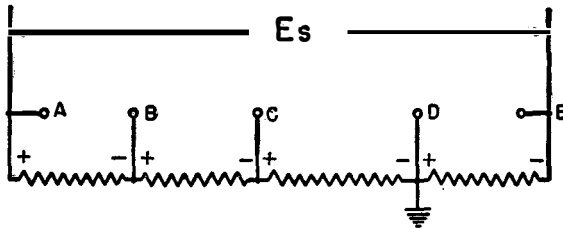

Figure 81.—Simple voltage divider.
A large number of radio systems use arrangements wherein the ground is negative with respect to certain points in the system, and positive with respect to other points. Figure 81 indicates that point (D) is positive in respect to point (E), but negative in respect to point (A). In this case, the voltage developed across resistor *D* could be used as biasing voltage, while the voltage developed across resistors *A*, *B*, or *C* could be used as other tube element voltages in a circuit having the tube filament or cathode grounded.